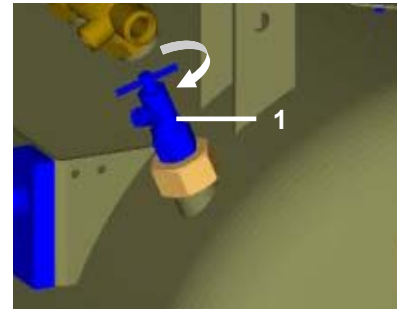

Fig.9
Compressors (Fig.9)
If the compressor will not be used for a prolonged time period, drain any condensate from the air tank. Then turn on the compressor for 10 minutes, keeping the drain valve open (1) (Fig.9). Switch off the compressor by switch (3) at pressure switch (2) (Fig.8), close the drain valve and disconnect the appliance from the mains.
- Release air pressure in the pressure tank by opening the drain valve (1) (Fig.9).